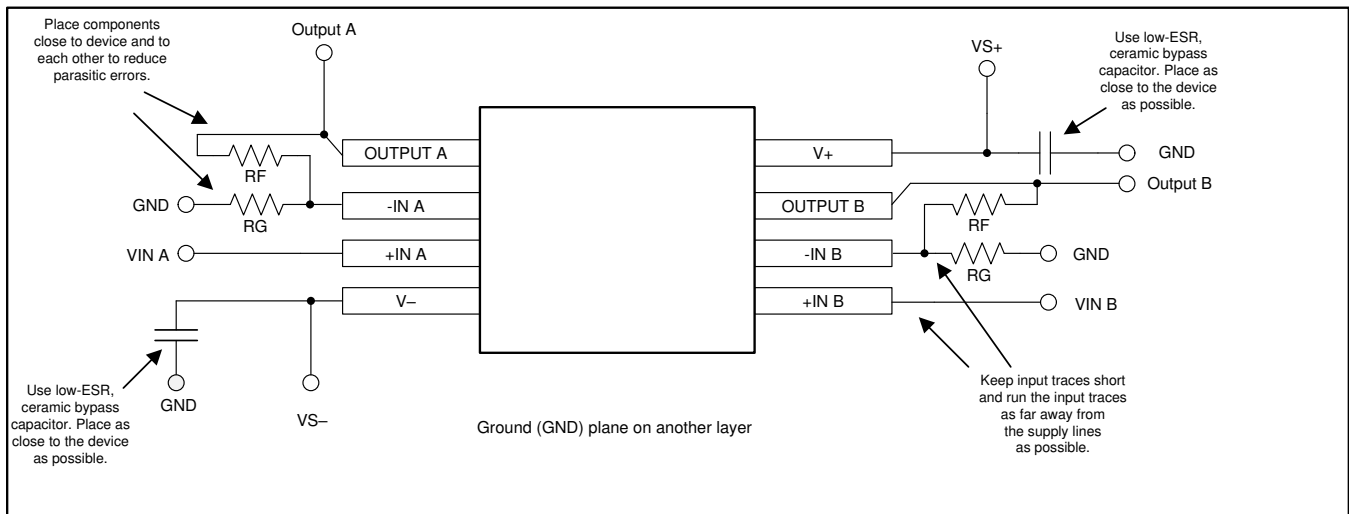

图 50. Operational Amplifier Board Layout for Noninverting Configuration
- Place the external components as close to the device as possible. As shown in 图 50, keeping  $R_F$  and  $R_G$  close to the inverting input minimizes parasitic capacitance.